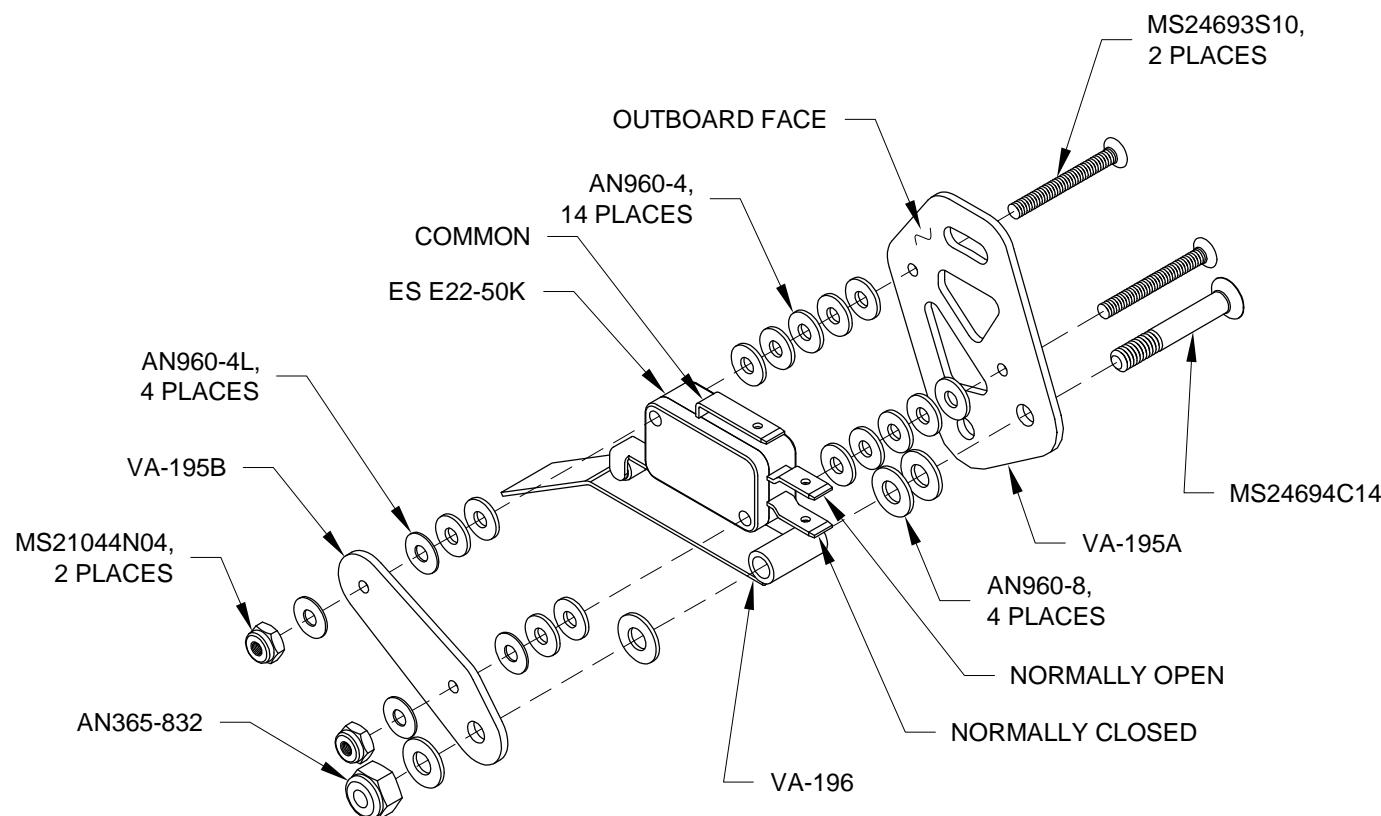

FIGURE 1: STALL WARNING SUBASSEMBLY
Step 1: Final-Drill #31 the holes in the VA-195A Mount Plate and VA-195B Keeper Plate that are used to mount the ES E22-50K Micro Switch. Machine countersink both holes of the mount plates inboard side for the flush head of a #4 screw. See Figure 1.
Step 2: Final-Drill #19 the hole in the VA-195A Mount Plate and VA-195B Keeper Plate that holds the #8 screw on which the VA-196 Stall Warning Vane pivots. Machine countersink this hole in the mount plate on the inboard side for the flush head of a #8 screw. See Figure 1.
Step 4: Assemble the Stall Warning Subassembly as shown in Figure 1. Do not over-torque the nut on the screw about which the vane pivots. Insure that the vane can rotate freely.